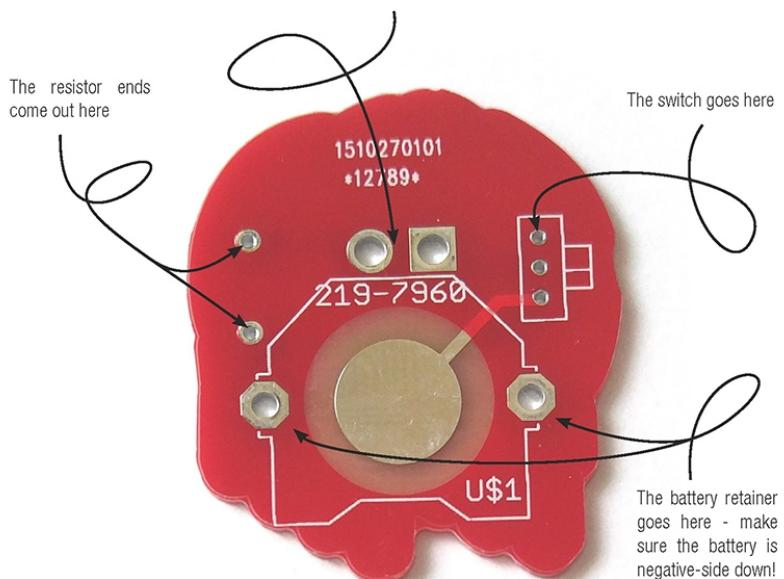

Figure 2. The original PCB design with indications of component location
2. As mentioned earlier, there's a general rule of thumb for which components get soldered on first—we start with the resistor here, following the illustration (Fig. 2, 3). We like to have the resistor on the front face of the badge. Just 'cause.